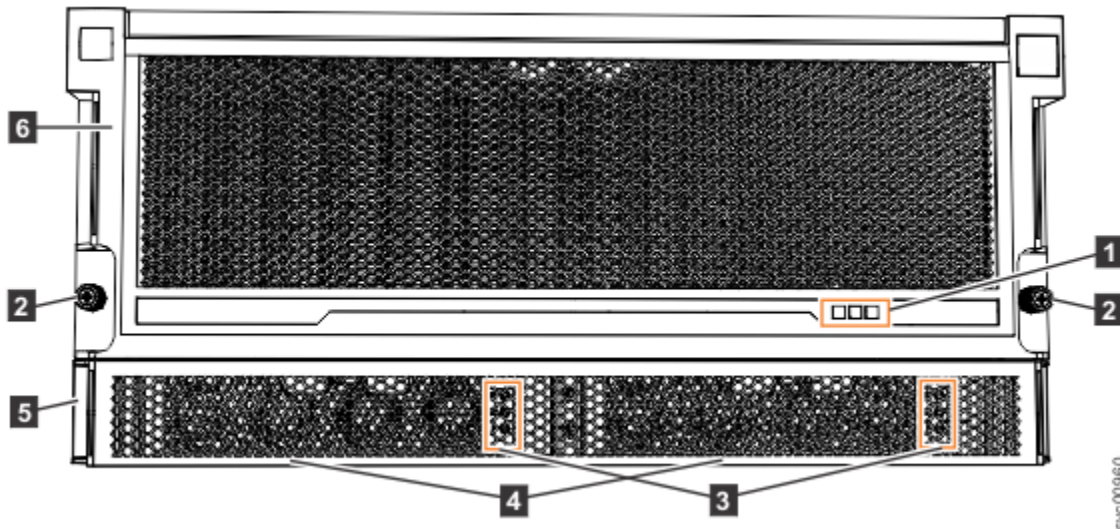
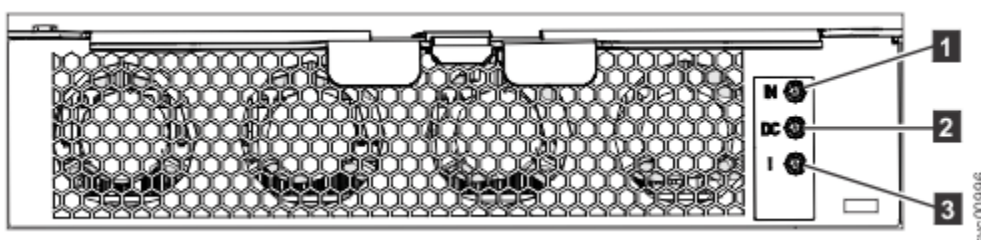

Figure 68. LEDs on the front of the expansion enclosure
Figure 69. LEDs on the front of a power supply unit
As Figure 68 on page 78 shows, the front of the 2072-92F expansion enclosure contains LEDs for the display panel (1) and for each of the power supply units (3).
The 2072-92F expansion enclosure contains two PSUs (4 in Figure 68 on page 78) that are accessible from the front of the enclosure. Each PSU has its own set of LEDs, as shown in Figure 69 on page 79.